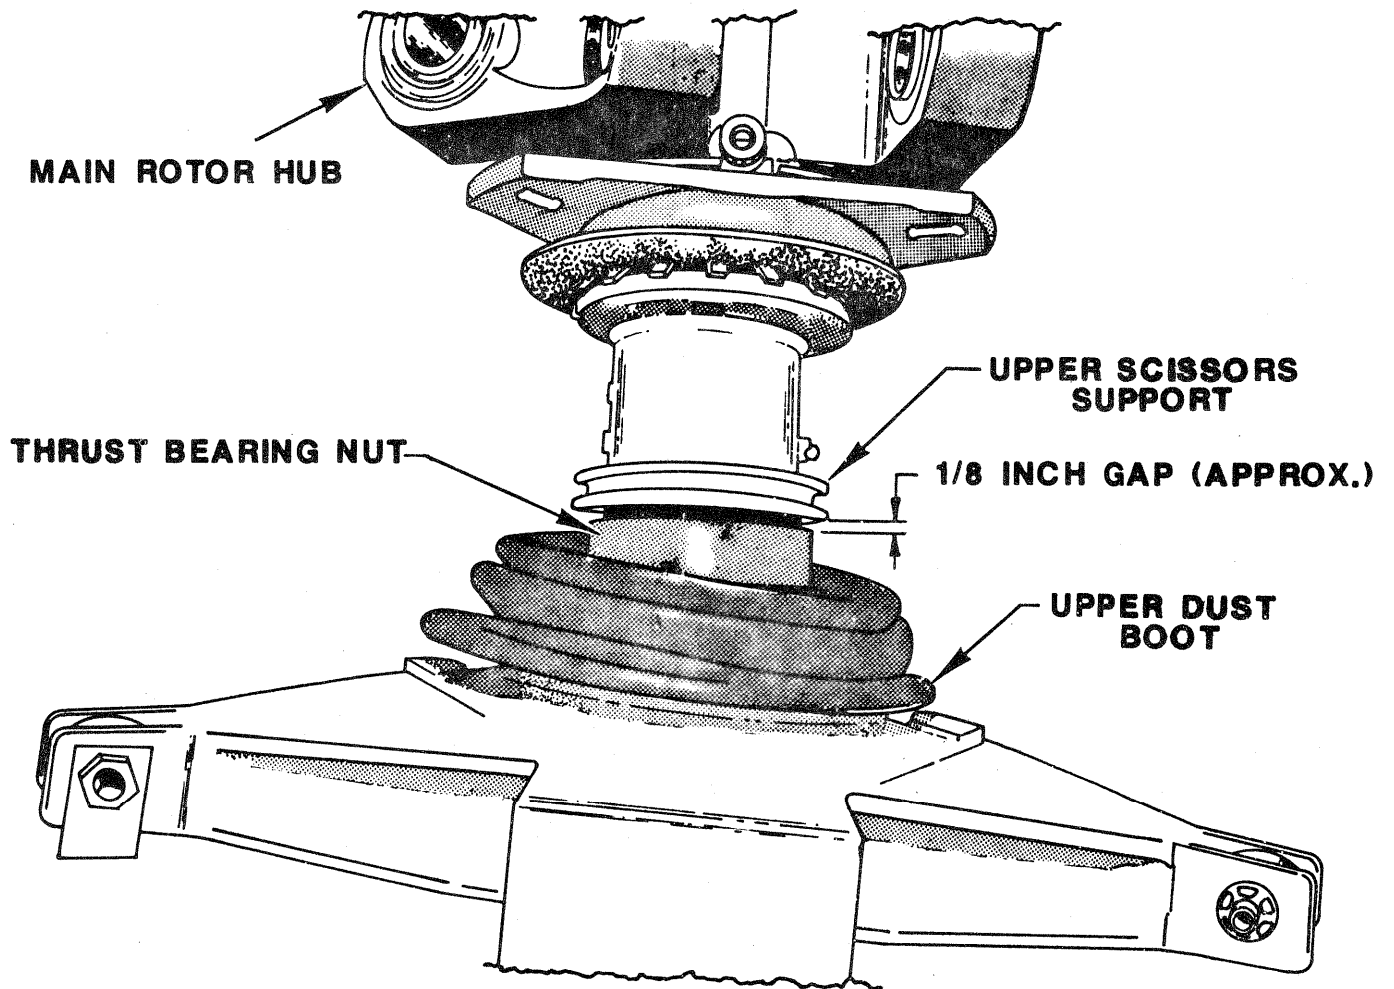

FIGURE 1.
- (1) Slide upper dust boot off from scissors support.
- (2) Force boot downward to gain visual access.
- (3) Determine that a gap (approximately 1/8 inch) exists between thrust bearing nut and scissors support. (See Figure 1.)